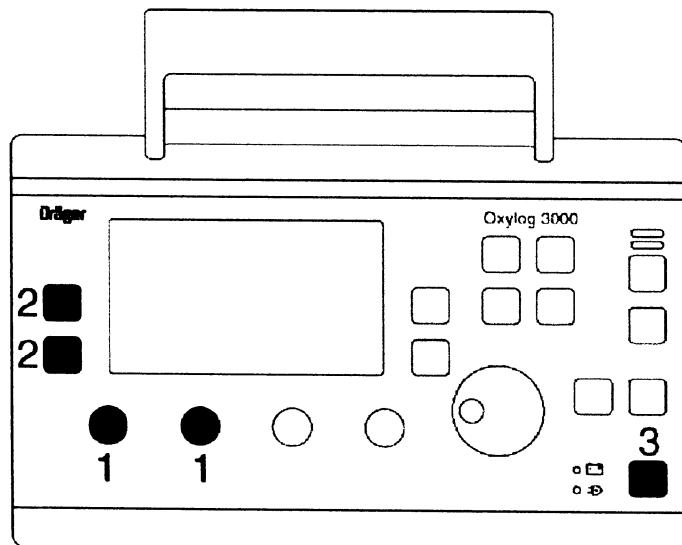

Fig. 1 Selecting service mode
1. Turn the adjuster Fig. 1 /1 fully clockwise.
2. Switch on the unit by the Fig. 1 key/3 and at the same time press and hold down the Fig. 1 keys/2 until Customer Service mode appears.